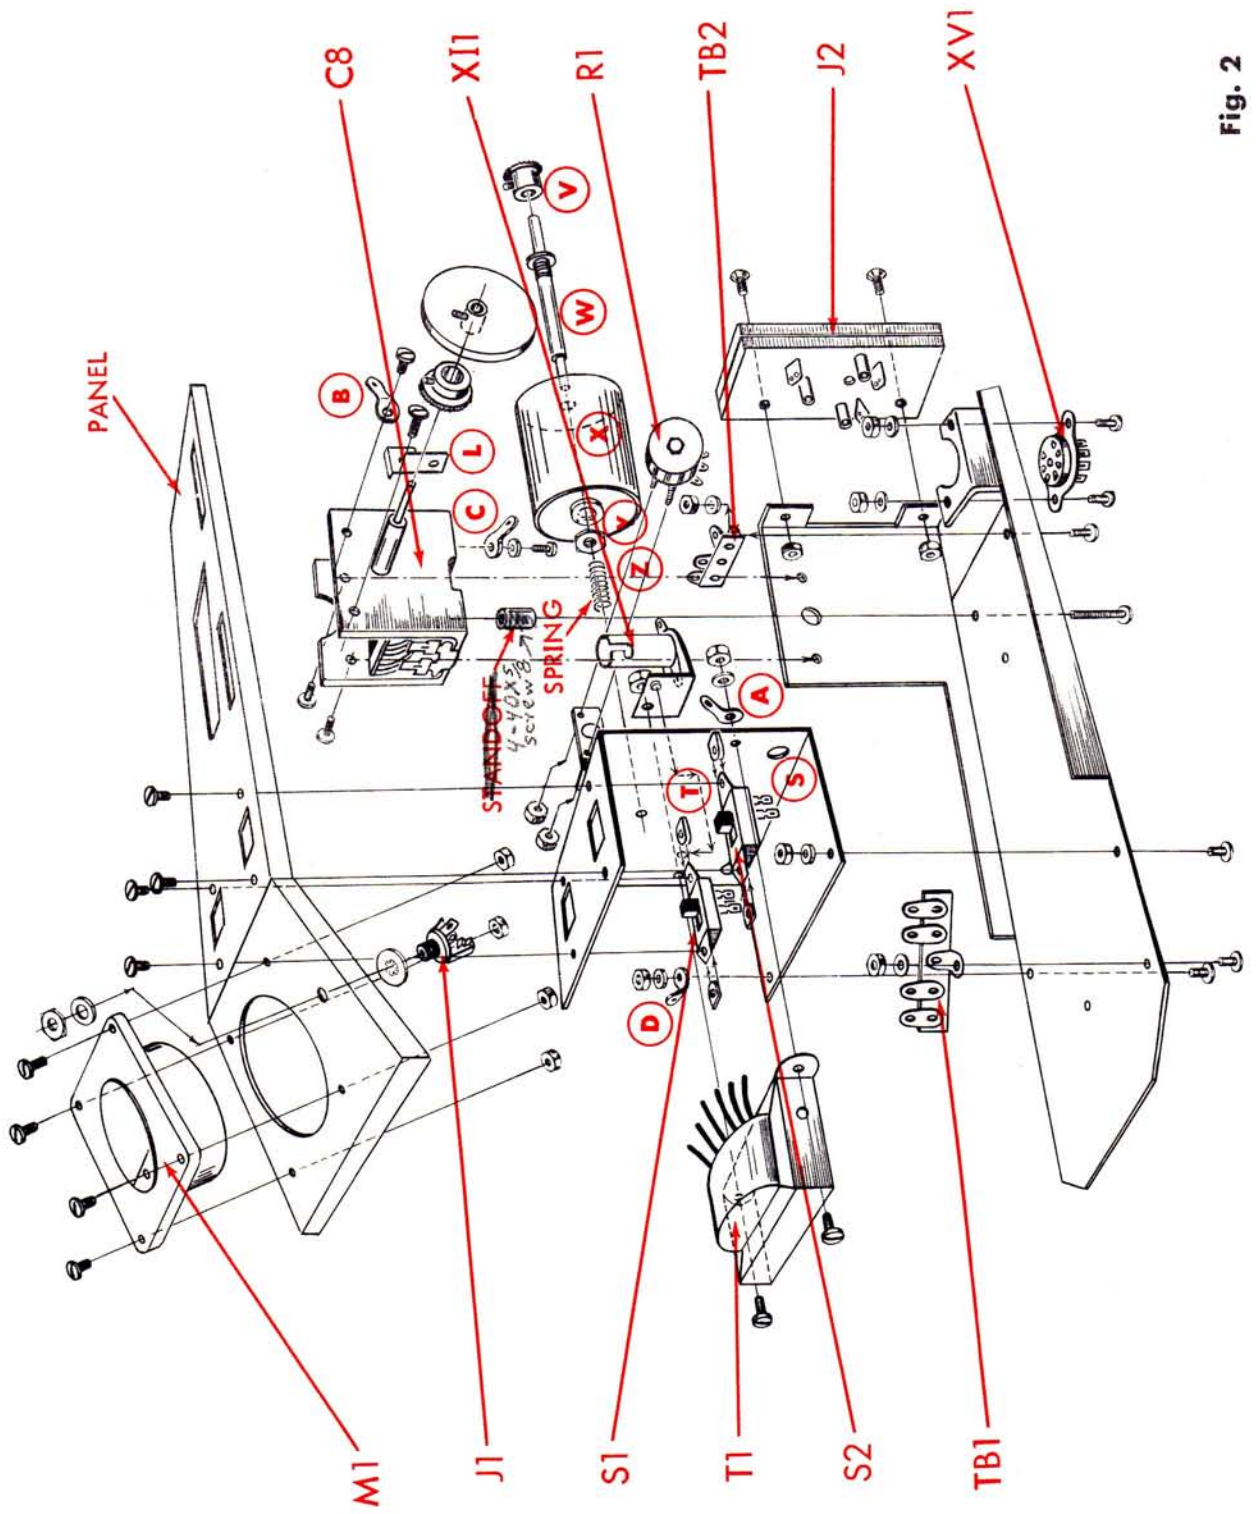
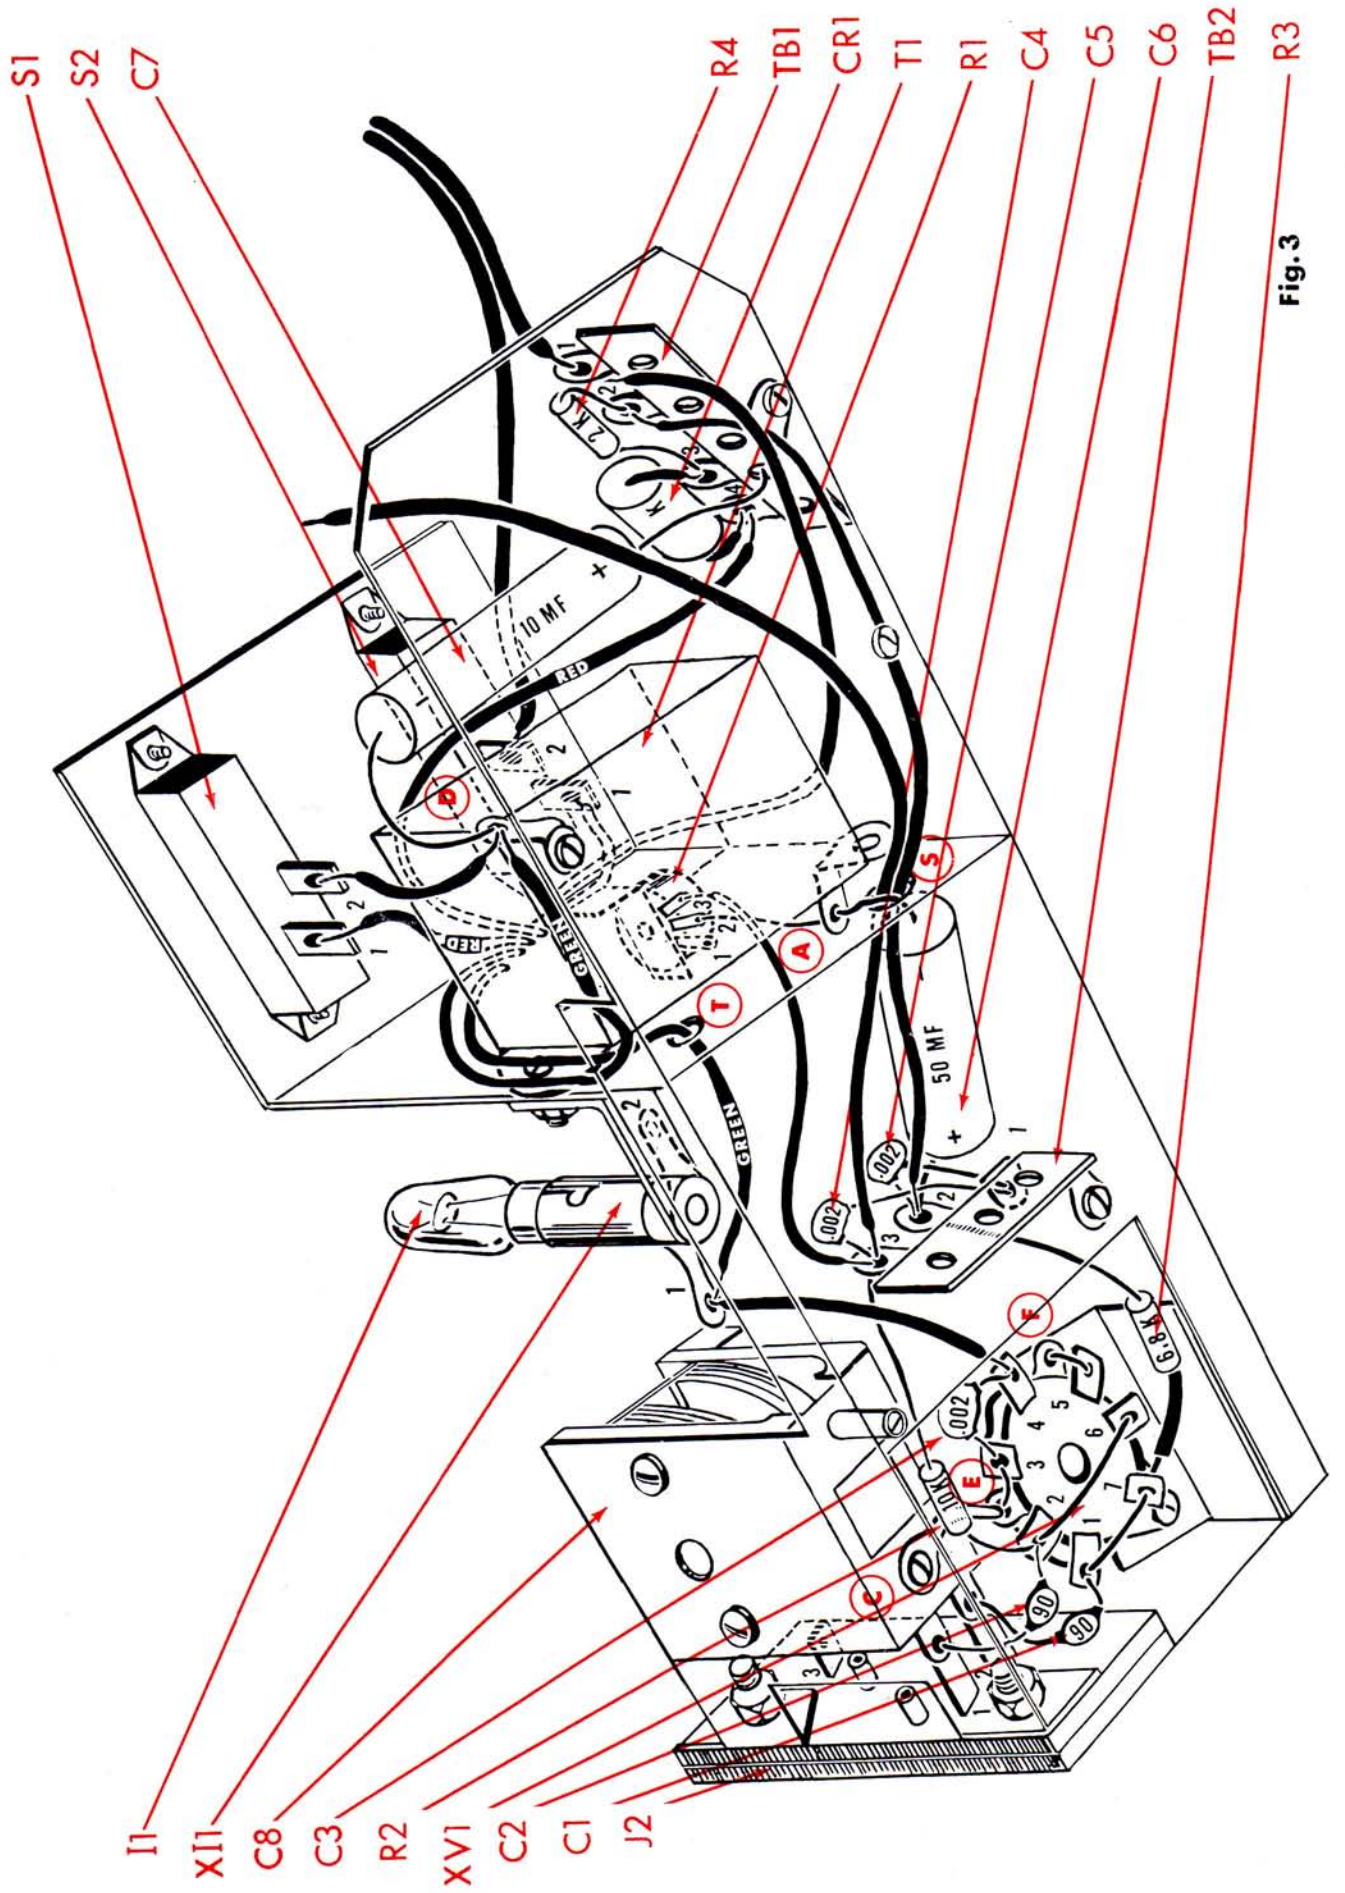

Fig. 2
Fig. 3
Note that the complete assembly of your grid dip meter is shown in figure 2. Letters "L", "V", "W", "X", "Y" and "Z" have been assigned to the components comprising the drum gear assembly. This item will be furnished to you preassembled by EICO. Only the main chassis and "U" bracket assembly will be completed on this page.
- ( ) 1. Fig. 2. On the flat back surface of the chassis, you will find very small holes, approximately  $1/16"$  diameter, spotted along the center line. These are intended to receive the self-tapping PK screws which fasten the chassis to the cabinet. However, these small holes must be tapped in order to receive the PK screws easily. Do this by laying the chassis down, overhanging the edge of the work table, so that the flat back surface is parallel to the work table surface. Drive one of the self-tapping PK screws all the way into each of the holes, in order to get a full top (drive by applying pressure to the screw while turning clockwise with a screwdriver). When you are through, place the PK screw back with the rest of the kit hardware.
- ( ) 2. Fig. 2. Mount the seven pin miniature tube socket XV1 prepared above, as shown. Use two #4-40 x  $1/4$  screws, two #4 lockwashers and two #4-40 x  $1/4$  hex nuts.
- ( ) 3. Fig. 2. Mount the four post terminal strip, TB1, and the two post right with ground terminal strip, TB2, as shown. Use one #4-40 x  $1/4$  screw, one #4 lockwasher and one #4-40 x  $1/4$  hex nut on each. Bend the ground lug on TB2 so that it is parallel to the large flat surface of the chassis, pointing towards the tube socket, XV1.
- ( ) 4. Fig. 2. The coil receptacle jack consists of two pieces of bakelite riveted together at the center. Three solder lugs surround this center rivet. At the two extremes, are two mounting holes. Mount this jack, J2, as shown. Note the direction of orientation of the solder lugs. Use two #6-32 flat head screws and two #6-32 hex nuts.
( ) 5. Fig. 2. Turn the plates on the variable capacitor so that they are fully meshed to prevent damage. From below the chassis (large flat surface), push a #4-40 x 5/8 screw through the appropriate hole to mount the variable capacitor, C8, as shown. ~~From above the chassis, place a screw over the screws.~~ Holding the capacitor as shown, turn the screw into the threaded hole in the bottom frame of the capacitor. Do not tighten this screw yet. *Rest the capacitor on the variable capacitor support bracket*
( ) 10. Fig. 2. Four small triangular Tinnerman nuts are supplied with the kit. These small nuts have two wings, held together by the spring action of the metal. Mount these four nuts on the two slide switch mounting brackets. The Tinnerman nut holes are to coincide with the switch mounting holes. The flat side of the Tinnerman nut must be facing up, so that when looking straight down at the switch, you can see the flat side of the Tinnerman nuts, as well as the switch slider.
( ) 6. Fig. 2. Two of the solder lugs on the variable capacitor C8, are near lugs #1 and #2 on the coil receptacle jack J2. The capacitor lugs should touch these receptacle lugs. If they do not, bend the capacitor lugs towards the receptacle lugs until they do touch. On the opposite side of the capacitor, you will find two similar lugs. Cut these off.
( ) 11. Fig. 2. Place the miniature potentiometer, R1, flat on a table, so that the lugs are facing up towards you. Bend the lugs so that they are parallel to the table, away from the center of the potentiometer, and are against the body of the component. Use two #1-64 hex nuts, (the two smallest nuts in this kit) to mount the pot to the small "L" shaped bracket which has been welded to the "U" bracket. Align the center pin on the pot so that it is concentric with the hole in the "L" bracket. Tighten the nuts. Note the position of the lugs in fig. 5.
( ) 7. Fig. 2. Mount a #6 solder lug "B" to the side of the variable capacitor frame, C8, as shown. Use one #4-40 x 1/8 screw. Orient this lug and bend it so that it touches lug #3 on coil receptacle jack J2.
( ) 12. Fig. 2. Mount the "U" shaped bracket to the main chassis, in such a direction that the pilot light socket is next to the variable capacitor, as shown. Use two #4-40 x 1/4 screws, two #4 lockwashers and two #4-40 x 1/4 hex nuts. Under one of the lockwashers, mount the #4 ground lug "D". Do not tighten these screws yet.
( ) 8. Fig. 2. Mount a #4 solder lug "C" to the bottom of the variable capacitor frame, C8, as shown in figure 3. Use one #4-40 x 1/4 screw and one #4 lockwasher. Orient this lug and bend it so that it touches the nearest ground lug on the socket, XV1.
( ) 9. Fig. 2. On power transformer, T1, cut one green lead to 3 1/2" and the second green lead to 2 3/4". Cut one red lead to 1 1/4" and the second red lead to 2 5/8". Cut one black lead to 1" and the second black lead to 4 1/4". Strip off 1/4" of the insulation from the end of each lead.
Figure 3 is a view of the wiring from below the chassis. Imagine that the chassis is transparent, and that you are looking through the main chassis.
- ( ) 1. Fig. 3. From power transformer T1, push the longer green lead through hole "T" in the "U" bracket and connect it to X11-1 (C). Connect the shorter green lead to ground lug "D" (C). Connect the shorter red lead to S1-1 (S1) and the longer red lead to TB1-4 (C). Connect the shorter black lead to S2-1 (S1) and the longer black lead to TB1-1 (C). See figures 4 and 5.
- ( ) 2. Fig. 3. Connect a 1 1/2" piece of black wire from S1-2 (S1) to ground lug "D" (C).
- ( ) 3. Fig. 3. Connect one end of 5 1/2" of red wire to TB1-2 (C). Push the other end of the wire through hole "S" in the "U" bracket. Connect this end to TB2-2 (C).
- ( ) 4. Fig. 3. On the 10 mfd, 150 volt electrolytic capacitor, C7, cut both leads to 1/2". Connect the positive (+) lead to the lower hole, nearest the chassis, in TB1-3 (C) and the negative (-) lead to ground lug "D" (S3). See figure 4. Dress the capacitor close to the power transformer and to the main chassis.
- ( ) 5. Fig. 3. Cut both leads on the 2K (red, black, red, silver) resistor, R4, to 1/2". Connect from TB1-2 (S2) to TB1-3 (C). See figure 5.
- ( ) 6. Fig. 3. Cut both leads on the selenium rectifier, CR1, to 3/4". Connect the red cathode end to TB1-3 (S3) and the black anode end to TB1-4 (S2). See figure 5. (Make sure you solder the lead coming through the lower hole in TB1-3).
- ( ) 7. Fig. 3. Solder lug #2 on the pilot light socket, X11, to the pilot light bracket. See figure 4.
- ( ) 8. Fig. 3. Cut both leads on a 90 mmf disc capacitor, C1, to 1/2".
- Connect from J2-2 (S2) to XV1-1 (C). At J2-2, be sure to solder the lug from the variable capacitor as well as one lead from C1. Dress this capacitor against the insulating body of the coil receptacle jack, J2.
- ( ) 9. Fig. 3. On the 90 mmf disc capacitor, C2, cut one lead to 3/4" and the second lead to 1/2". Connect the longer lead to J2-1 (S2) and the shorter lead to XV1-2 (C). Solder the variable capacitor as well as one lead from C1 to J2-1. Keep this capacitor away from C1. (Step 8 above).
- ( ) 10. Fig. 3. Connect a 3/4" piece of bare wire from XV1-1 (S2) to XV1-7 (C). Keep wire straight. Cut off any excess wire.
- ( ) 11. Fig. 3. Connect a 1" piece of bare wire from XV1-2 (C) to XV1-6 (S1). Keep wire straight. Cut off any excess wire.
- ( ) 12. Fig. 3. Connect a 1/2" piece of bare wire from XV1-3 (C) to ground lug "E" (C), on XV1.
- ( ) 13. Fig. 3. Solder the ground lug "C" to the ground lug "E" on XV1 as well as the lead connected to ground lug "E" in step 12, above.
- ( ) 14. Fig. 3. Connect a 1/2" piece of bare wire from XV1-5 (S1) to ground lug "F" (S1) at XV1.
- ( ) 15. Fig. 3. Cut both leads on a .0022mfd (2.2K or 2200mmf) disc capacitor, C3, to 1/2". Connect from XV1-3 (S2) to XV1-4 (C).